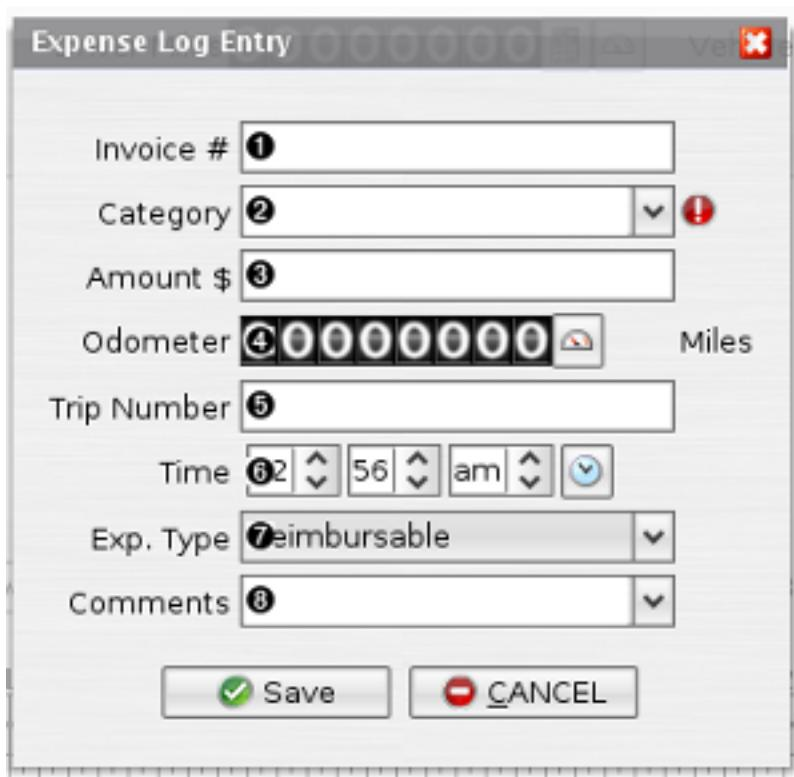

Figure 5.25. Expense Log Entry Dialog
- Expense: A log entry to record the purchase of some item (an expense) associated with the operation of the commercial vehicle see Figure 5.25, “Expense Log Entry Dialog”.